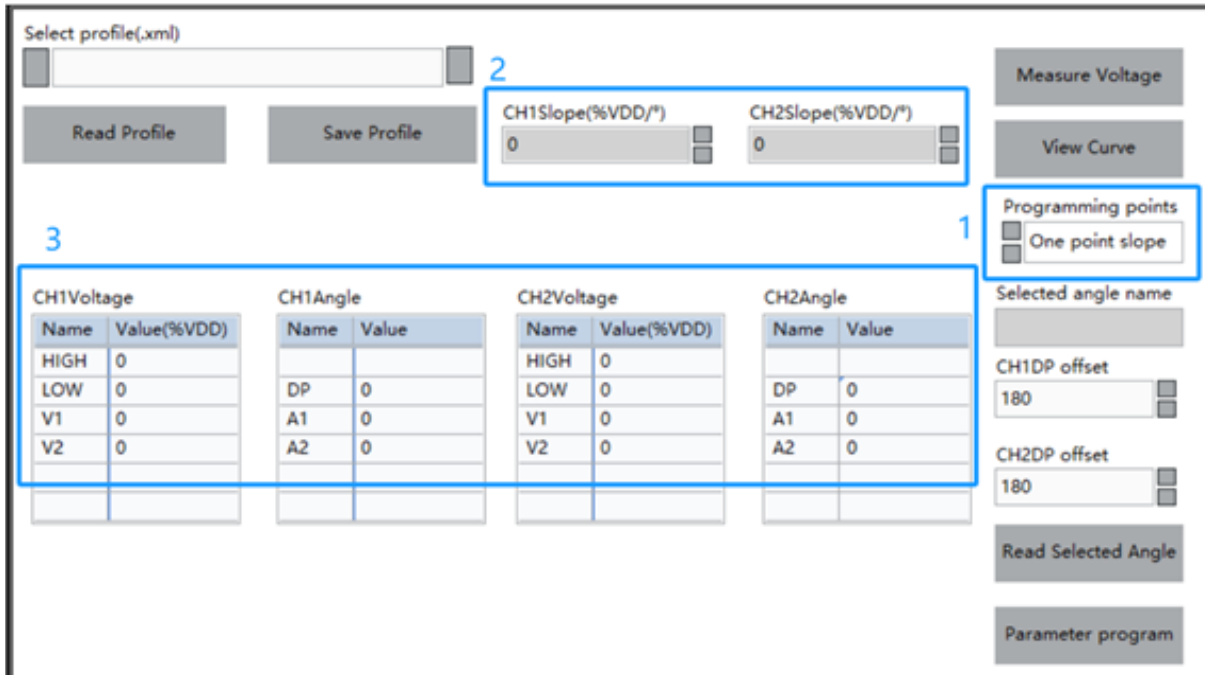

Figure 5.1.10 Select a point of slope programming and fill in the fixed parameters
- Enter the above parameters in the corresponding parameter field. 'HIGH', 'LOW', 'V1' and slope are fixed parameters, which remain unchanged during repeated programming after filling in. The 'A1' parameter is manually controlled and is the actual Angle value of the chip at present. The 'V2' and 'A2' parameters are the programming theoretical values calculated by the above parameters and will change with the change of 'A1' (Figure 5.1.10). Click the "Angle value" box corresponding to "DP" of CH1, set the magnet (sensor) Angle at about the middle of the entire travel, and click the "Read as Select Angle" button to read the current chip Angle value after stabilizing, and display the value of the current value plus 180° in the "DP" Angle value of CH1 and CH2.